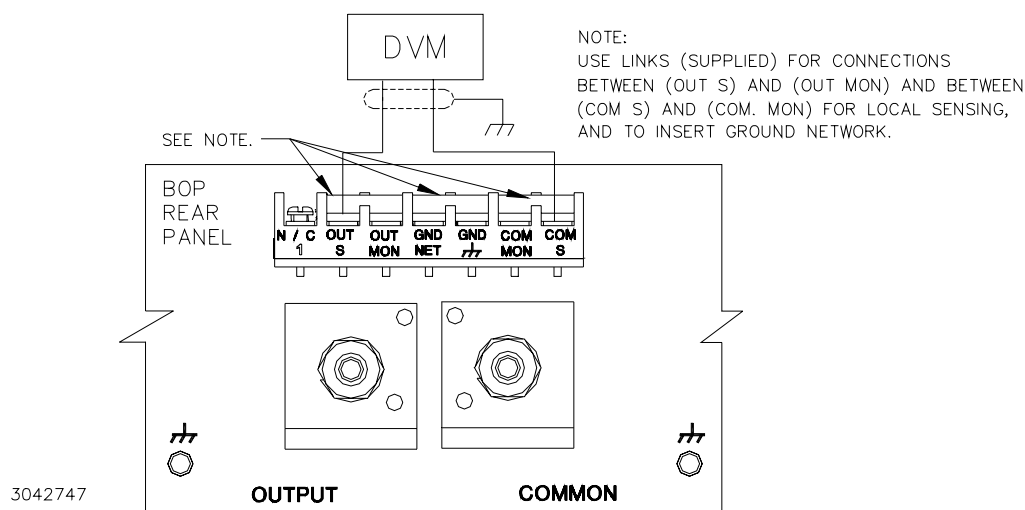

FIGURE 4-1. CALIBRATION SETUP FOR VOLTAGE MODE
3. Set the unit for local sensing with GND Network in (see Figure 4-1) and disconnect load from BOP output to prepare the unit for voltage calibration.
3. Set the unit for local sensing with GND Network in (see Figure 4-1) and disconnect load from BOP output.